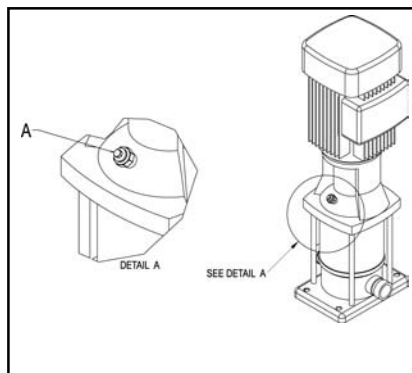

Fig. 14 0627131
3. Loosen the relief plug (A, Fig 14) 1-2 revolutions until water and air begin to flow out.